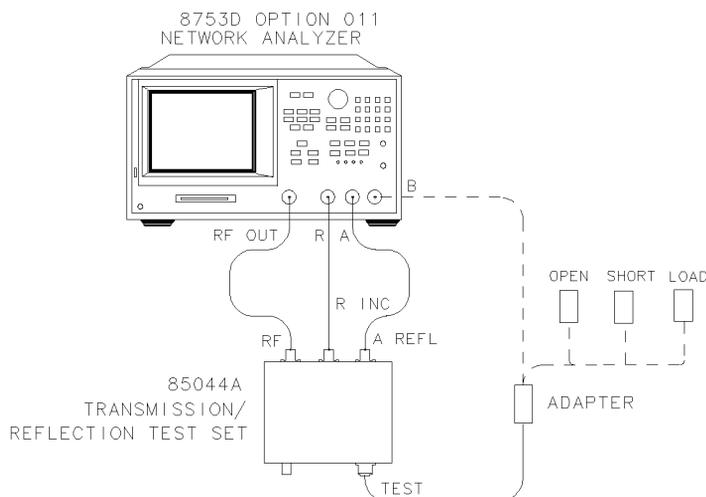

Figure 6-17. Receiver B Input Impedance Test Setup
- 1 Connect the equipment as shown in Figure 6-17.